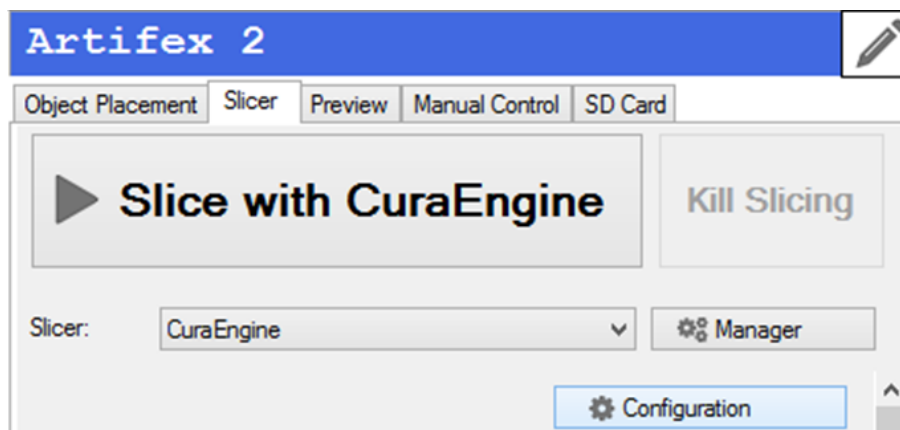

Figure 3.8: Slicer page on the Repetier-Host interface with CuraEngine
- Click the “Slicer” page next to the “Object Placement” page on the right side of Repetier-Host interface. Select “CuraEngine” in the Slicer option (Figure 3.8).